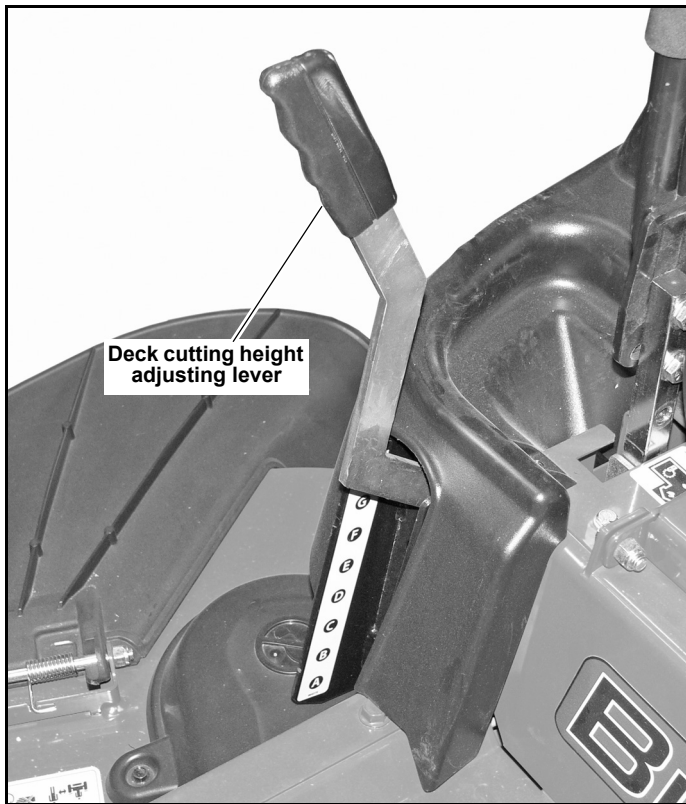

Figure 3-4
- B. **Deck cutting height adjusting lever (Figure 3-4)** — the deck cutting height adjusting lever is used to raise or lower the deck. Slide the lever out of a notch and raise or lower the lever and slide it into the desired cutting height notch.